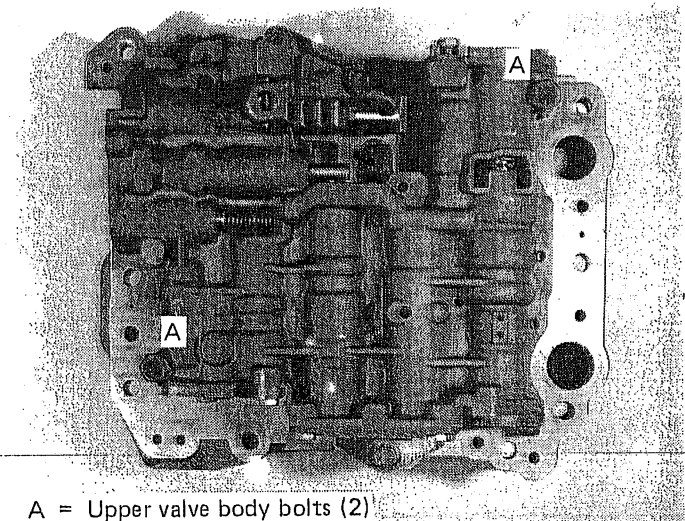

FIGURE 3
STEP 5. Lay the valve body on the bench with the filter side down. Remove the two upper 1/4" bolts with a 7/16" wrench. (See Fig. 3)
STEP 17. Turn valve body over and install the two long 1/4" bolts. (See Fig. 3) Tighten to 80-120 in. lbs. Also tighten all valve body and end plate bolts to 20-40 in. lbs. in this sequence: Two 1/4" hold down bolts 80-120 in. lbs., seven valve body screws 20-40 in. lbs., end plate screws 20-40 in. lbs.